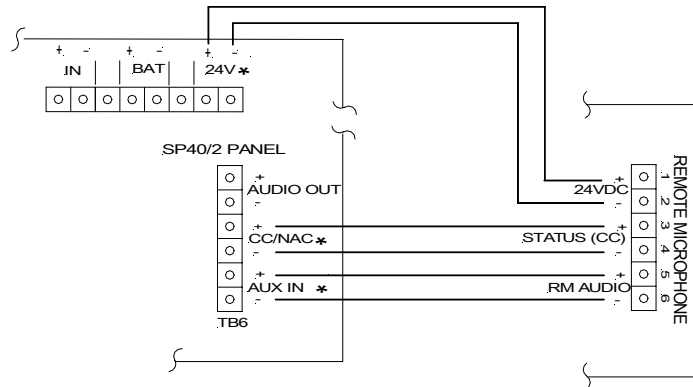

Figure 1.
Figure 1 shows the proper wiring connections for connecting the SPRM to the SP40/2.
2. Attach the 6 wires as shown in the wiring diagram (Figure 1). Be sure to use the specified wire.